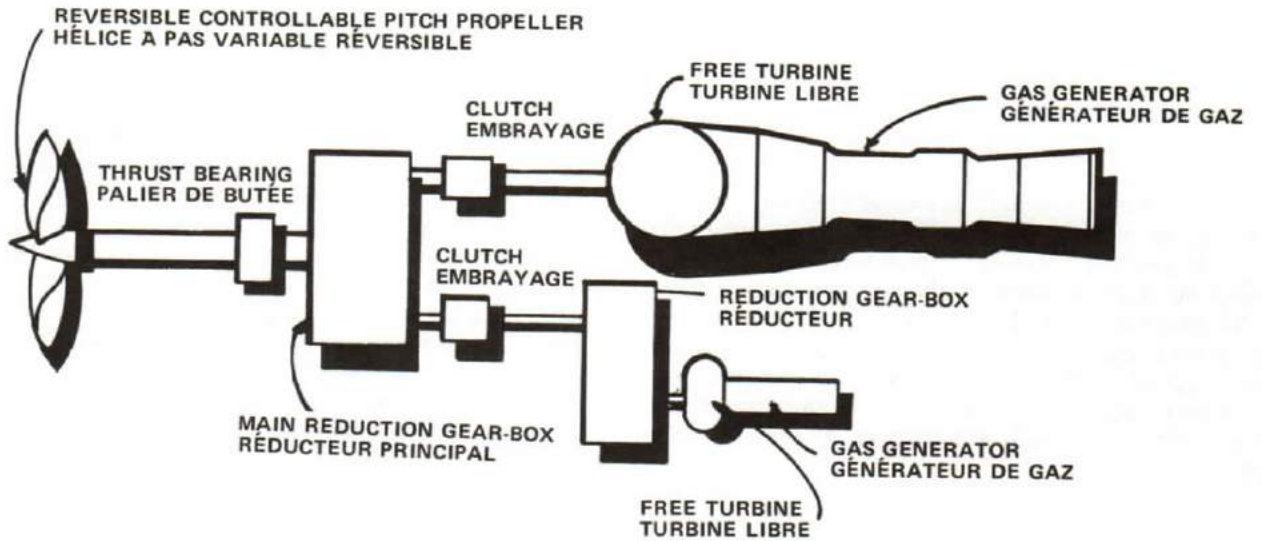

Figure 6-15
1. Basically, the gas turbine engine consists of three major components, the compressor, the combustion chamber, and the turbine. See Figure 6-15.
1. Essentiellement, la turbine à gaz comporte trois parties principales, le compresseur, la chambre de combustion et la turbine (voir la figure 6-15).